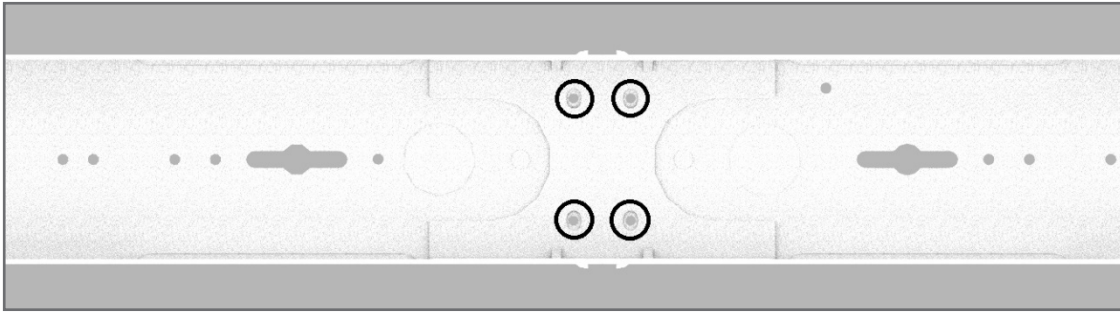

FIGURE 21
4. From the inside, insert 4 self-tapping screws at the circled location in Figure 21 to secure the housings to the bracket.